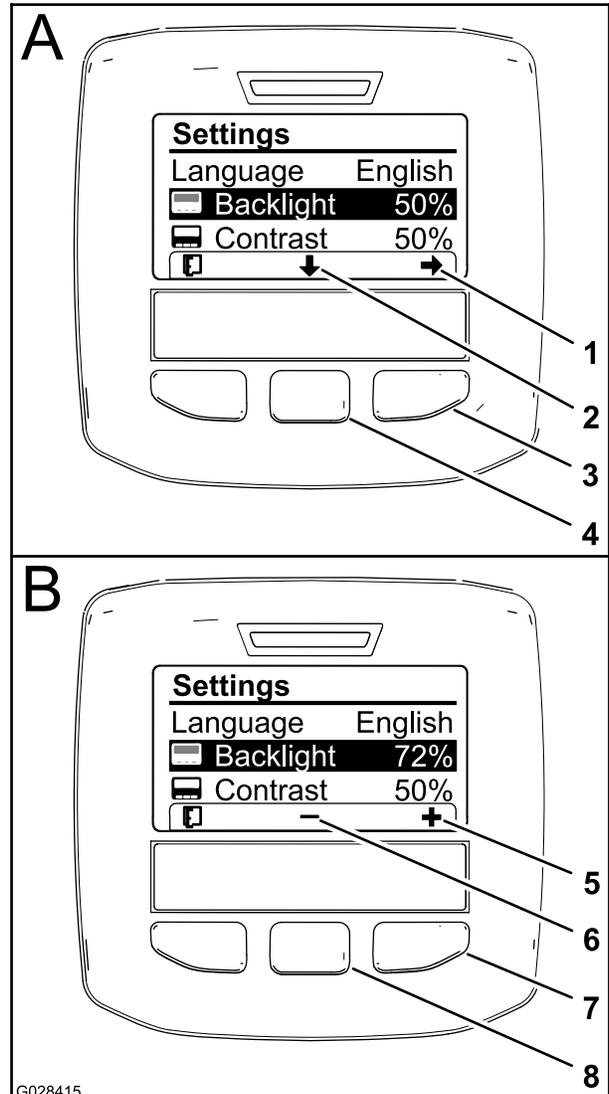

Figure 10
(the button below the down arrow icon in the display) to move the selected option down to the Backlight or Contrast setting (Figure 10).
- Press the right selection button to display the value adjustment context (Figure 10).
- Use the center selection button and right selection button to change the brightness or contrast level of the display (Figure 10).
4. Press the left selection button to save your selection (Figure 10).